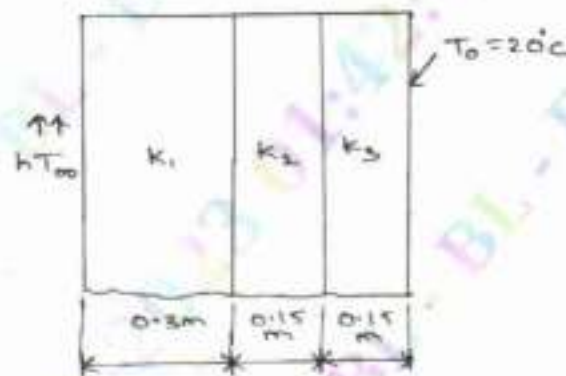

Fig Q10(c)
c. Solve for temperature distribution in the composite wall as shown in Fig Q10(c), using 1-D heat elements. use penalty approach of handling boundary condition.